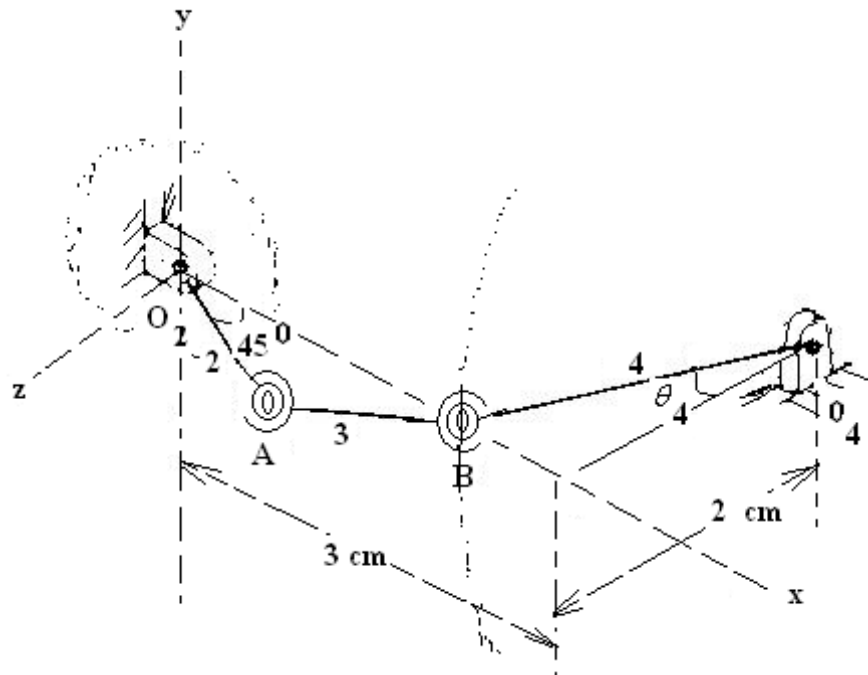

Figure 9:
4. A four -link RGGR crank-rocker mechanism shown below. The knowns are the position and plane of rotation of the input link, the plane of rotation of the output link, and dimensions of all four links. Find the positions of all moving links when the input crank is set to $\theta_2 = -45^\circ$ as shown in Figure 9 below. Solve the problem using Analytical approach.